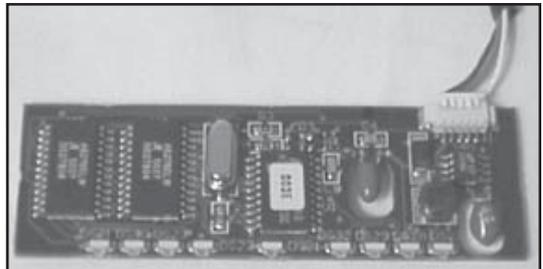

Figure 3
5. Attach the 3-wire connector to the back of the circuit board (see Figure 3).